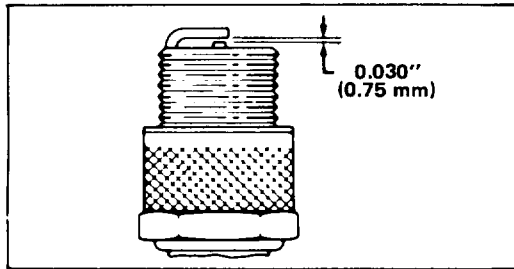

Figure 12
3. Set air gap at 0.030" (0.75 mm) (Fig. 12). Install correctly gapped spark plug and gasket seal. Tighten plug firmly to 15 ft-lb (20.4 N-m).